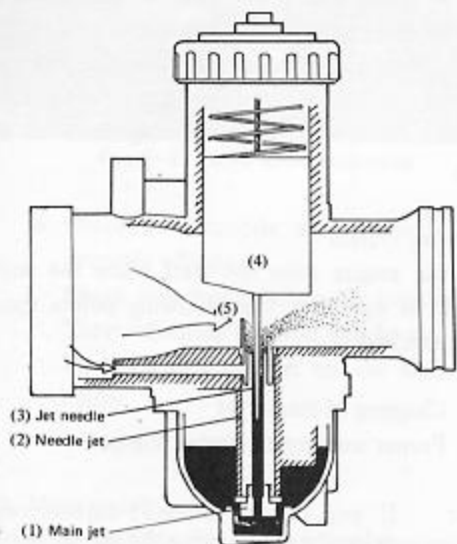

Fig. 8-5 Main system
a. Improper seating or damaged float needle valve and seat	Clean or replace needle valve, and seat (Refer to Fig. 8-5)
As shown in Fig. 8-5, when aspirated air from the air cleaner passes between the main bore and the throttle valve (4), it draws in fuel from the main jet (1) and a gap between the needle jet (2) and the jet needle (3) by the above-mentioned venturi effect. It further atomizes the fuel before being supplied the engine.
At the same time, air is introduced from a small air passageway at the lower side of the main bore shown in Fig. 8-5, and passed into the needle jet to facilitate the atomization of the fuel. The screen (5) fitted to the top of the needle jet blocks the air flow in the main bore generating a turbulent flow at its back which is needed to facilitate the atomization of the fuel. This is called a "primary choke".